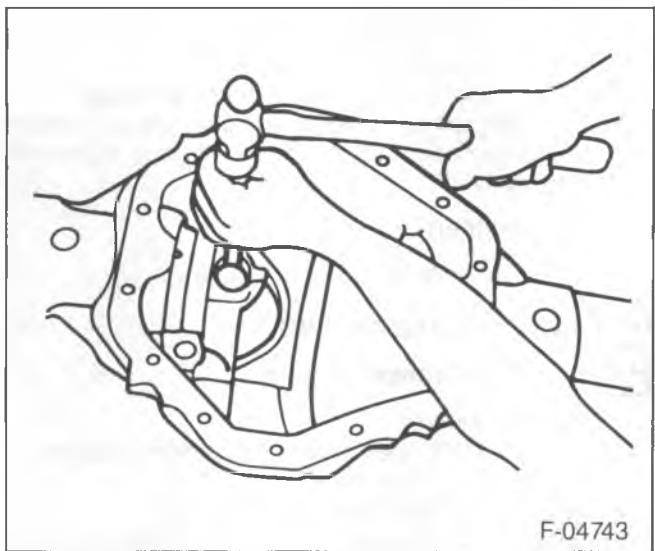

Figure 9—Removing the Pilot Bearing
- 24. Pinion seal (5) from the pinion cage.
- 25. Front bearing (6) from the cage.
- 27. Pilot bearing (15) from the axle housing using a hammer and brass drift (figure 9).